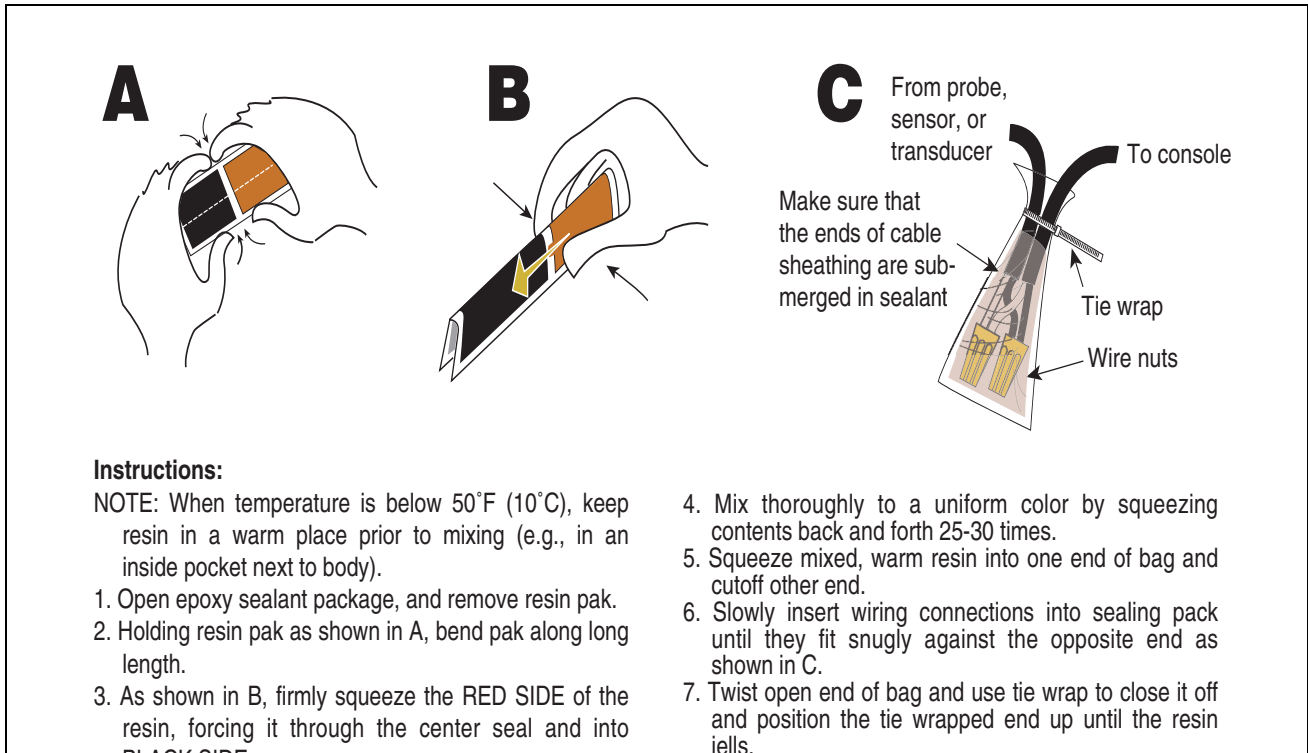

Figure 24. Epoxy Sealing probe Field Connections
Make sure there is a minimal amount of slack between the probe and cap, then tighten the cord grip nut until the cable is held firmly. Push the end of the cable through the field J-box cord grip, then tighten that cord grip nut as well. Splice and seal the wires in the J-box as shown in Figure 24 on page 27.
4. Seal wire nuts with epoxy sealant following the instructions in Figure 24.